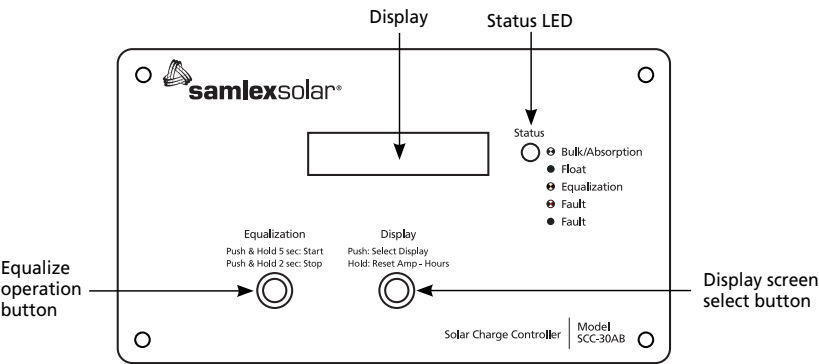
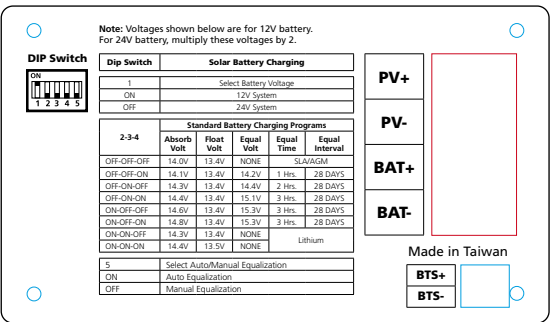
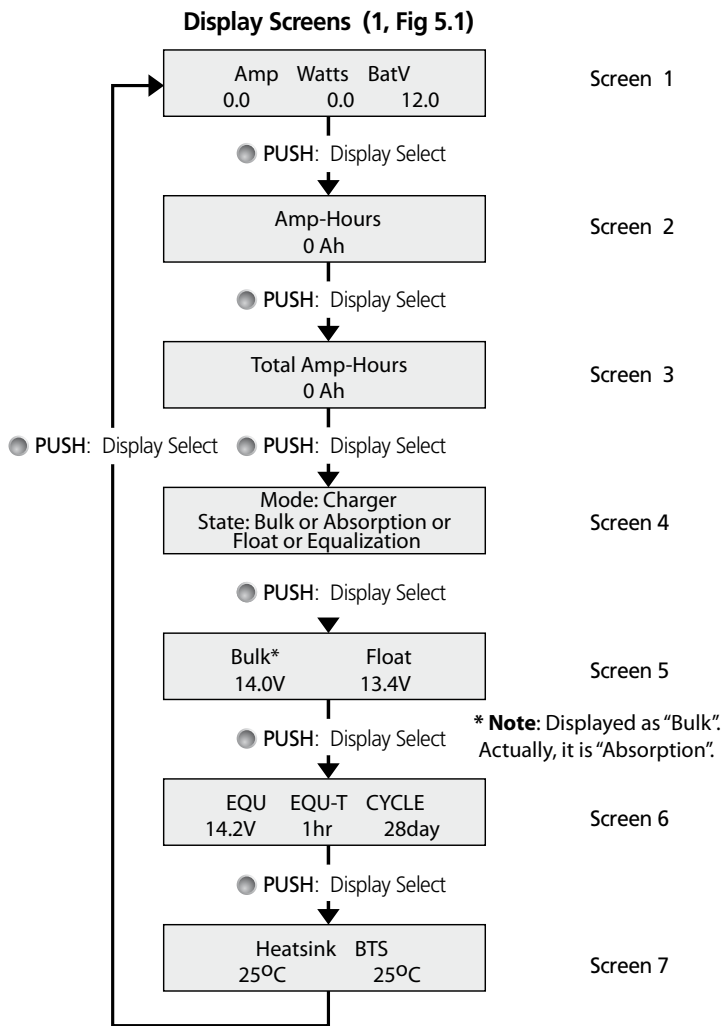

Fig. 5.1. Front Panel of SCC-30AB
Fig. 5.2. Back view of SCC-30AB
Fig. 5.3. LCD Display Flow
Equalization is carried out either automatically after every 28 days or manually when desired. Equalization Voltage Regulation Sets Points and Equalization Time / Interval will depend upon the type of battery being charged and can be programmed with the help of DIP Switches 2,3,4 located at the back of the unit (Fig 5.2). Voltage regulation Set Points will depend upon the type of battery being charged. This information is available as follows:
- At the back of the unit - Fig 5.2
Automatic equalization after interval of 28 days or manual equalization can be selected with the help of DIP Switch 5 located at the back of the unit (Fig 5.2).
When manual equalization is selected, equalization can be started and stopped manually with the help of Equalization Button on the front panel of the unit (Fig 5.1). Please see under heading "Push Buttons", Table 5.2 on page 30 for manual ON / OFF procedure.
- Screen 6 displays the set Equalization Voltage (under EQU), the Equalization Time (under EQU-T) and 28 day period (under CYCLE) pertaining to one of the 6 options of battery types that has been selected with the help of DIP Switches 2, 3, 4 (Fig 5.2 and Table 6.1)
Automatic equalization after interval of 28 days or manual equalization can be selected with the help of DIP Switch 5 located at the back of the unit (Fig 5.2). Please refer to Fig 4.1B.
During this stage, LCD Screen 4 (Fig 5.3) displays " State: Equalization". LCD Screen 6 (Fig 5.3) displays the programmed Equalization parameters. Screen 1 (Fig 5.3) shows the programmed value of Equalization Voltage Regulation Set Point "Ve" under "BatV". The Status LED on the front panel will blink ORANGE, once per second.
NOTE: *During Equalization Stage, if the load current is more than the current from the solar panel, the battery voltage will drop. If the battery voltage drops around 1V below the Equalization Transition Voltage Set Point "Ve" for around 1 min, the controller reverts to Bulk Stage with 100% Duty Cycle. The LCD Screen 4 (Fig 5.3) will still display "State: Equalization" and the front panel Status LED will still be blinking Orange. It will revert to PWM when the battery voltage reaches Equalization Transition Voltage Set Point "Ve" and is sustained for a minimum period of around 50 to 55 sec.*
Stage 3: Float Stage. The controller enters this stage from the previous Equalization Stage at point "D1" after the battery voltage is held at the programmed Equalization Voltage Regulation Set Point "Ve" for continuous or cumulative period of 1/2/3 Hour. During this stage (Curve portion "D1" to "E1"), the Switch operates under PWM control by feeding pulsing Short Circuit Current "Isc" with very low Duty Cycle of 0% to < 10% to keep the battery voltage constant at the Float Voltage Regulation Set Point "Vf". During this stage, the battery is 100% charged and a very low "Trickle Charge" of around 0.1% of the Ah Capacity is required to be fed to the battery to compensate for self-discharge. The battery can be left at this stage for prolonged period of time. During this stage, the LCD Screen 4 (Fig 5.3) displays "State: Float". Screen 5 (Fig 5.3) displays the programmed Float Voltage Regulation Set Point (Displayed on the screen under "Float").
NOTE: During Float Stage, if the load current is more than the current from the solar panel, the battery voltage will drop. If the battery voltage drops around 1V below the Float Voltage Regulation Set Point "Vf" continuously for around 1 hour, the controller reverts to Bulk Stage and the LCD Screen 4 (Fig 5.3) changes to "State: Bulk".
Manual equalization can be selected with the help of DIP Switch 5 located at the back of the unit (Fig 5.2).
When manual equalization is selected, equalization can be started and stopped manually with the help of Equalization Button on the front panel of the unit (Fig 5.1).
The controller has provision for temperature compensation with the help of Temperature Sensor. This Temperature Sensor is required to be connected to the terminals marked BTS+ and BTS- (Fig 5.2).
SCC-30AB is designed for flush mounting on a wall / panel. The controls and indications are built on the Front Panel face plate that has 4 countersunk holes for flush mounting (Fig. 5.1). All the electronics, DIP switches for settings, terminal strip for connections for the PV Array and the Battery and terminal for the Battery Temperature Sensor (BTS) are mounted on a PCB that is in turn mounted at the back of the face plate (Fig. 5.2). For flush mounting on the wall / panel, a suitable cutout is required to be made in the wall / panel to accommodate the PCB at the back of the unit. As the components at the back of the unit will be hidden and protected behind the wall / panel, the components at the back of the unit are exposed and do not have a protective cover. **PLEASE HANDLE THE UNIT CAREFULLY TO PREVENT ANY DAMAGE TO THE EXPOSED COMPONENTS AT THE BACK OF THE UNIT.**
A single, 3-color LED (GREEN, RED, ORANGE) marked "Status" (2, Fig 5.1) is used to indicate charging stages and faults as given below in Table 5.1.
Display (3, Fig 5.1)	Push to change the LCD display screens (Fig. 5.3) Push and hold to reset Amp-Hours.
Equalization (4, Fig. 5.1)	When DIP Switch 5 is set at OFF, hold Restart / Stop Equalization for 5 sec to manually start equalization. Press it for 2 sec to stop equalization.
The LCD Display (1, Fig. 5.1) is a 2 Line, 16 character display with backlighting. The backlighting switches OFF after 30 seconds and switches ON again when any button is pressed. The Push Switch marked "PUSH: Select Display" (3, Fig. 5.1) and "HOLD: Reset Amp Hours" (3, Fig. 5.1) is used to manipulate the LCD functions. Every time the Push Switch is pressed momentarily, the screen display scrolls. The scrolling sequence is shown in Fig. 5.3. Please note that the 7 screens are sequential & are displayed in a continuous loop: 1 - 2 - 3 - 4 - 5 - 6 - 7 - 1 - 2 - 3 and so on (See Fig. 5.3). When selected, Screens 2 to 7 will be displayed for 15 minutes and thereafter, will revert to Screen 1 (Default Screen). Details of information provided in the LCD screens (Fig 5.3) are given below:
The back of the unit (Fig 5.2) has the following input / output connections and DIP Switches for various settings.
As soon as Battery (+) is connected, the Status LED (2, Fig 5.1) will be steady Orange and message “Welcome to Samlex Solar 1.0” will be displayed for around 3 to 5 sec. After this, the LED will blink Green & Screen 1 (Fig 5.3) will be displayed: Amp 0.0; Watt 0.0; BatV=“the battery voltage”.